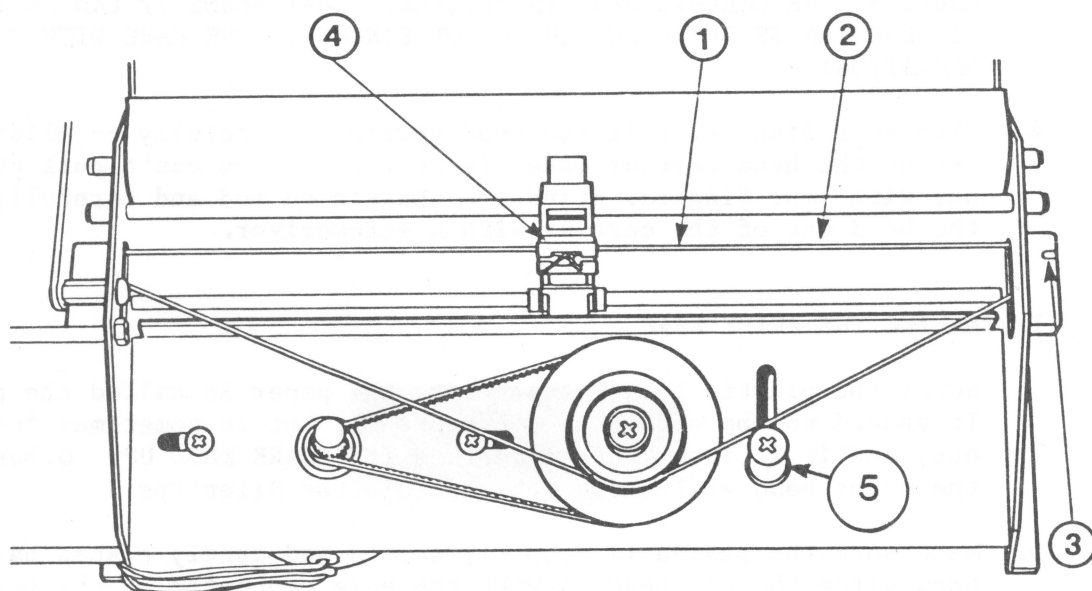

FIGURE 8
5. Hold the idler (Figure 8, #5) from beneath with a pair of pliers, and with a screwdriver, loosen the screw and move the idler towards you. The idler screw can be left loose for right now.
7. Cut the old string on the right side of the print head (Figure 8, #1).
8. Tie a new string (precut to approximately 40") to the right hand portion of the old string (Figure 8, #2).
9. Pull on the old string on the left side of the print head, until the new string is threaded through the right guide (Figure 8, #3), across the front, and through the left guide.
11. Pry the retainer (Figure 8, #4) out of the head assembly, and discard the old string.